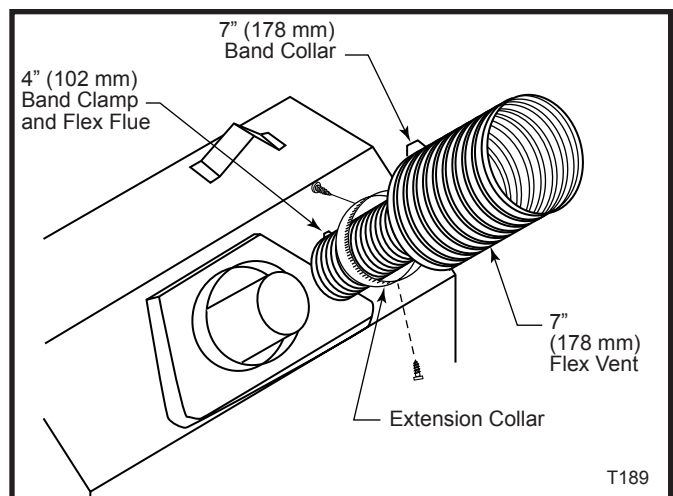

Fig. 22 Insert collar into flex pipe and secure with band clamp.
An extension collar is included with side wall cap kits to simplify the connection of the flex pipe to the fireplace. Refer to Page 14, Figure 22.
6. Connect corrugated side of the extension collar (7" dia.) into the 7" dia. flex pipe. (Fig. 22) Place a small bead of silicone around the collar approximately 1/4" from the leading edge of the corrugation. Insert the collar firmly into the flex pipe and secure with the provided (7" dia.) band clamp.